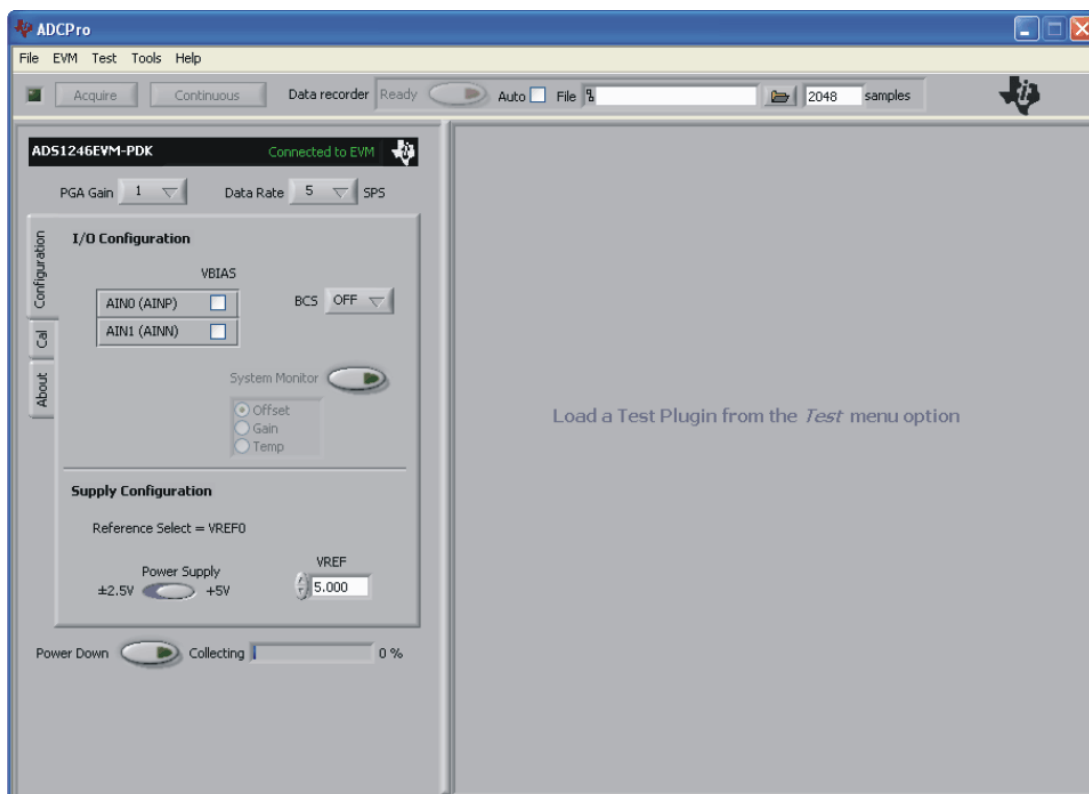

Figure 10. ADS1246EVM-PDK Plug-In Display Window
- Step 2. Select ADS1246EVM from the EVM drop-down menu. The ADS1246EVM-PDK plug-in appears in the left pane, as shown in Figure 10.